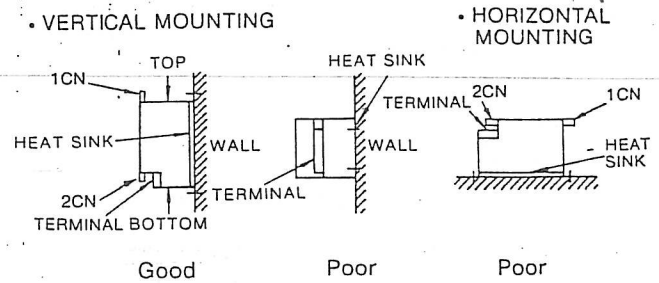

Fig. 7.5 Mounting Direction of Servopack
(3) Mounting Direction
Mount the unit vertically on the wall using the mounting holes (4) on the base plate, with main terminals at the bottom. (Fig. 7.5)